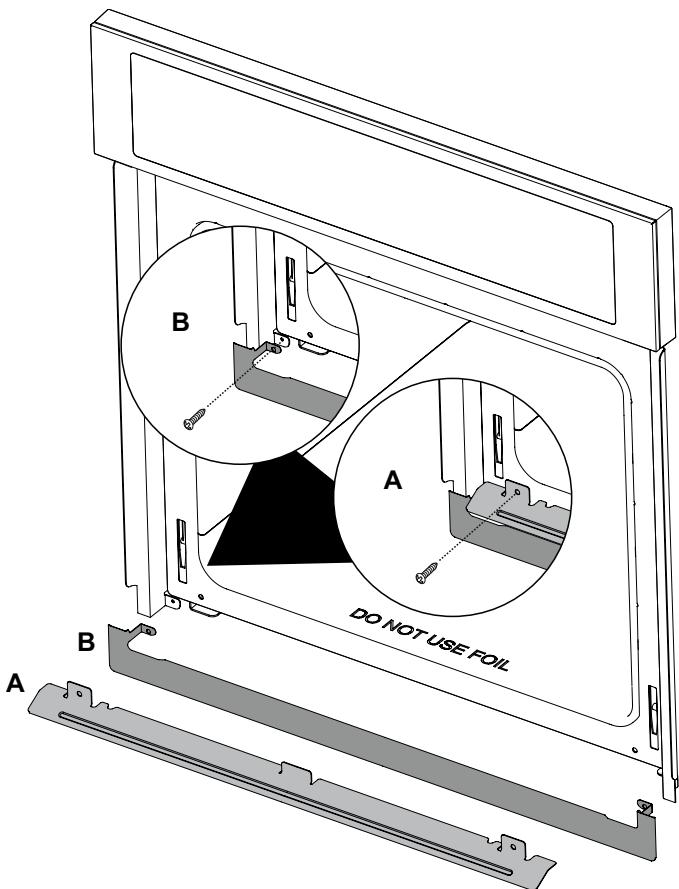

Figure 8: Bottom trim
- A. Place the air diverter (A) in place as shown in Figure 8. Line up screw locations and attach both ends.
- B. Place the color matched trim (B) in place as shown. Line up screw locations and attach both ends.